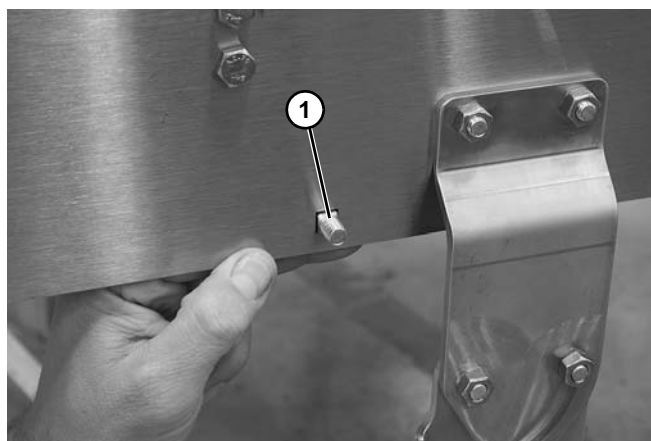

Figure 17
1. Install carriage bolt (Figure 17, item 1) through frame rail.